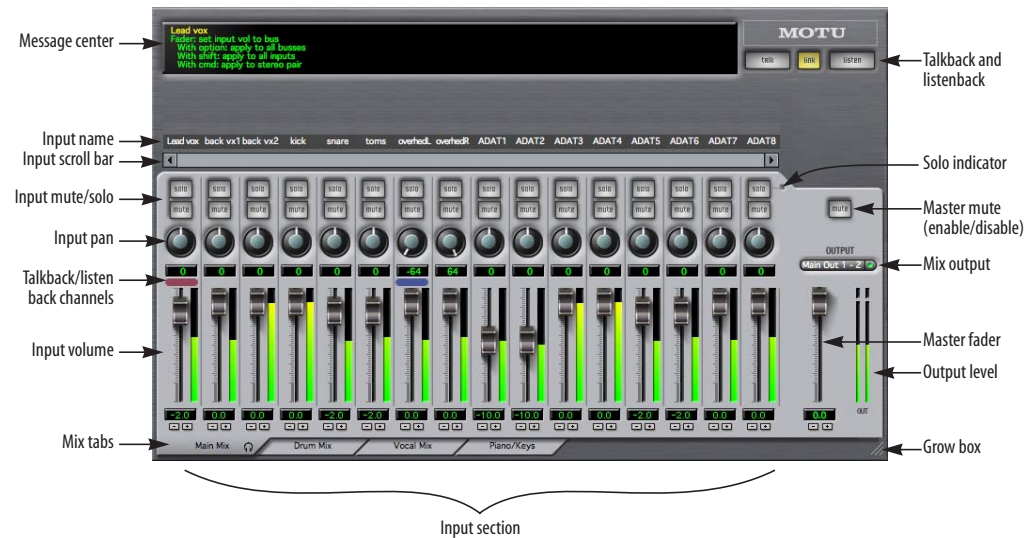

Figure 11-1: MOTU CueMix Console is a virtual mixer that gives you control over the 8pre's on-board mixing features.
CueMix Console displays one mix at a time. To select which mix you are viewing, click its tab at the bottom of the window, as shown in Figure 11-1. The mix name appears in the tab. Double-click the name to change it.
To view more input faders at once, drag the grow box (Figure 11-1) to the right.
To view a mix, click its tab at the bottom of the window, as shown in Figure 11-1. The mix name appears in the tab.
The master mute button (Figure 11-1) temporarily disables (silences) the mix.
The master fader (Figure 11-1) controls the overall level of the mix (its volume on its stereo output). Use the individual input faders to the left to control individual input levels.
To add an input to a mix, or remove it, click its MUTE button. To solo it, use its SOLO button. To toggle these buttons for a stereo pair, hold down the command key while clicking either channel. The Solo indicator LED (Figure 11-1) lights up when any input is soloed (including inputs that may currently be scrolled off-screen).
Use the input fader and pan knob (Figure 11-1) to adjust these settings for the input in the mix. Again, all settings within the gray-shaded channel strip area belong to the mix currently being viewed. Note that an input can have different settings in different mixes.
- 1 Select the source mix (Figure 11-1) and choose Copy from the file menu (or press command-C).
Choose *Edit Channel Names* from the CueMix Console File menu to open a window that lets you customize the names of the 8pre’s inputs and outputs. Your custom names appear in CueMix Console (in the input name strip as shown in Figure 11-1 on page 51) and in the input and output menus of your host audio software. For details, see “Edit Channel Names” on page 28.